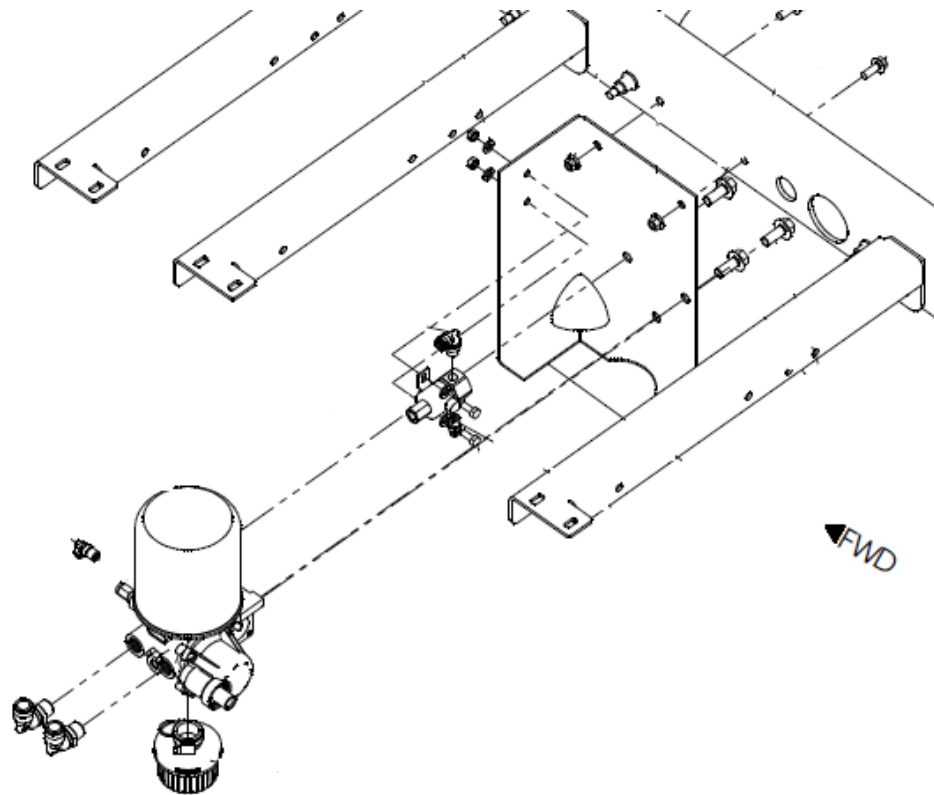

FIG. 2-1
3. Locate air dryer behind air tanks. Refer to FIG. 2-1.